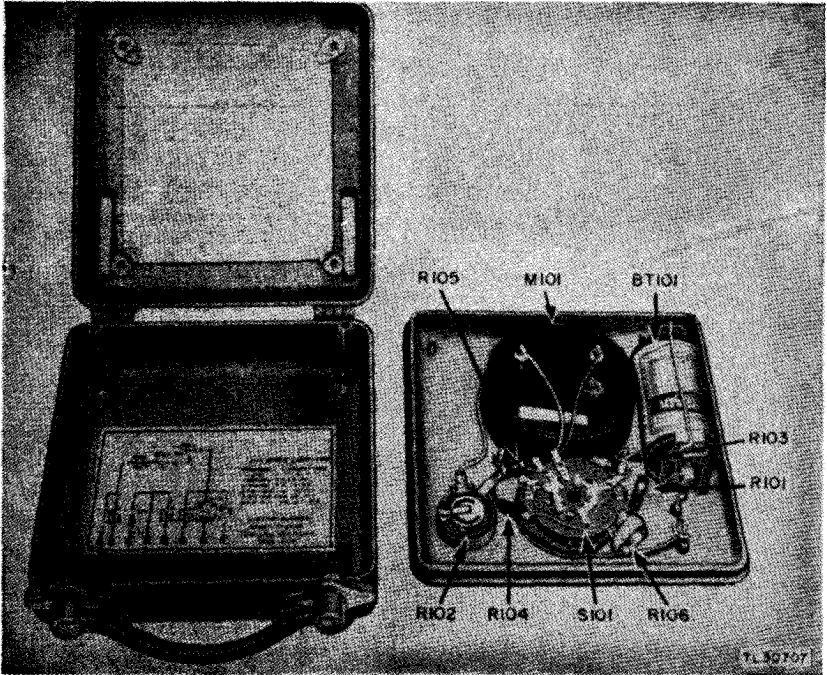

Figure 7. Crystal Rectifier Test Set TS-268/U, under panel view.
*a. Crystal Rectifier Test Set TS-268/U.* Loosen the mounting screws in the four corners of the instrument panel, and lift the panel from the case. All circuit parts are mounted on the rear of the panel. The battery-mounting receptacle is located on one side of the meter (fig. 7). Release the holding clip on the battery receptacle, and insert the battery in the receptacle with the positive pole facing toward the lower section of the panel. The positive polarity usually will be marked on the battery receptacle. Fasten the holding clip firmly in place and return the instrument panel to the case.